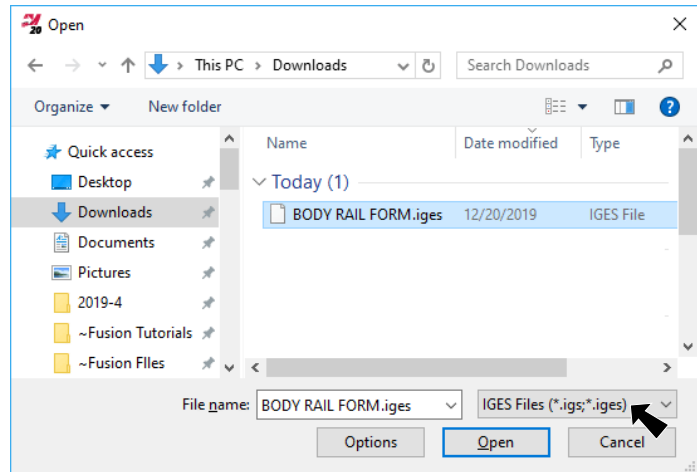

Fig. 1
Step 3. In the Open dialog box set **Files of type** to **IGES Files**, navigate to the Download folder, select your **BODY** file and click Open, **Fig. 1**.